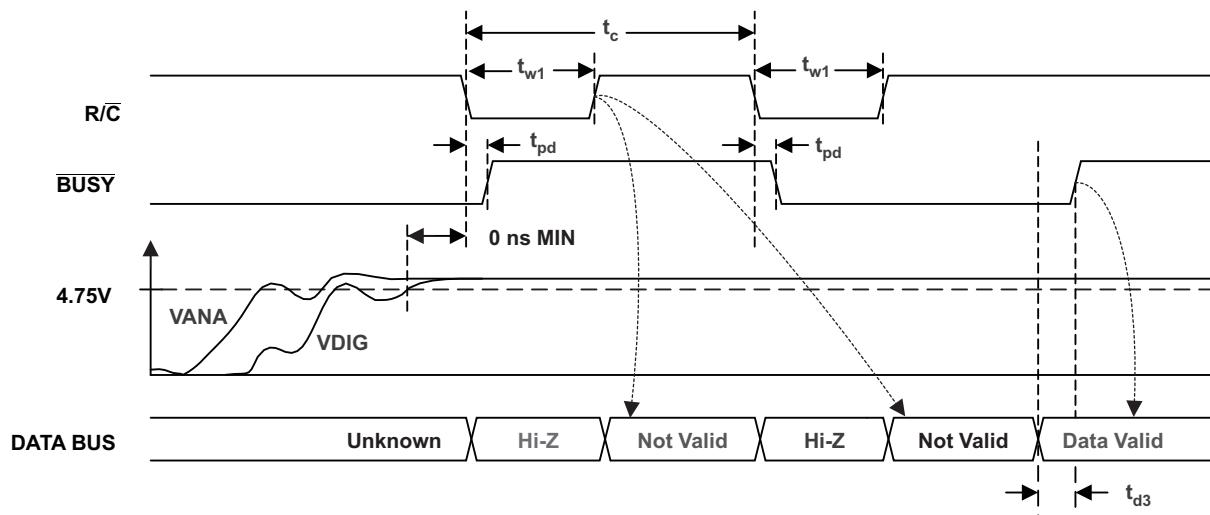

Figure 26. ADC Reset
The combination of \overline{CS} (pin 25) and $\overline{R/C}$ (pin 24) low for a minimum of 40 ns immediately puts the sample/hold of the ADS8505 in the hold state and starts conversion n . \overline{BUSY} (pin 26) goes low and stays low until conversion n is completed and the internal output register has been updated. All new convert commands during \overline{BUSY} low will abort the conversion in progress and reset the ADC (see Figure 26).
(2) See Figure 26 for details on ADC reset.